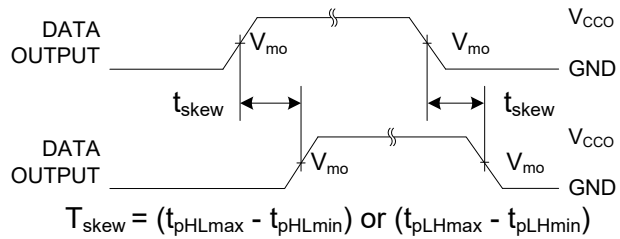

Figure 11. Output Skew Time
16. Skew is the variation of propagation delay between output signals and applies only to output signals on the same port (An or Bn) and switching with the same polarity (LOW to HIGH or HIGH to LOW) (see Figure 11). Skew is guaranteed; not production tested.